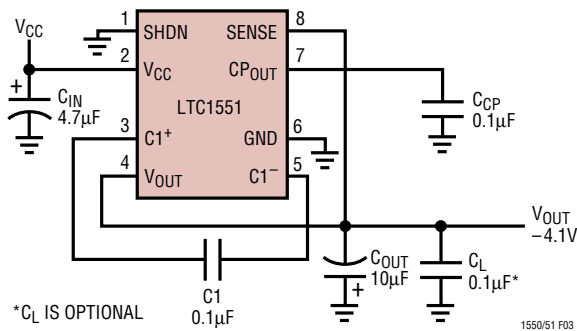
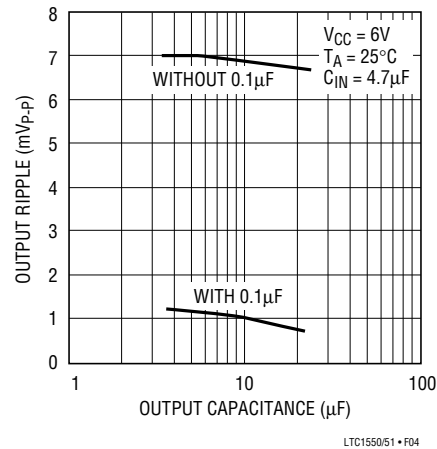
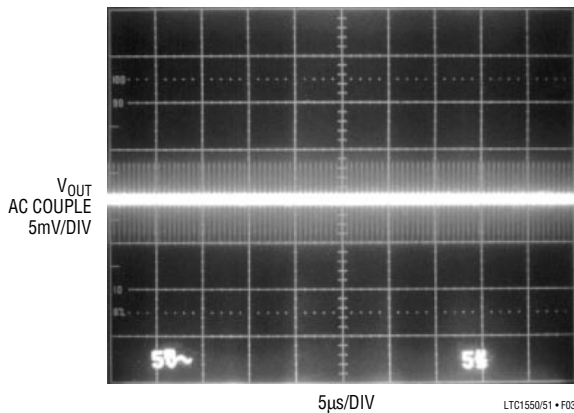

Figure 2. Output Ripple Test Circuit
Figure 3. Output Ripple vs Output Capacitance
Figure 4. Output Ripple with  $10\mu\text{F}$  Tantalum Capacitor
**Load Transient Response (See Figure 2, VCC = 5V)**
**Line Transient Response (See Figure 2, IL = 10mA)**
**Output Spectrum (See Figure 2, COUT = 10μF)**
(See Figure 2,  $C_{OUT} = 10\mu\text{F}$ )
(See Figure 2,  $C_{OUT} = 22\mu\text{F}$ )
Figure 3 shows the effect of using different output capacitor values on LTC1550/LTC1551 output ripple. These curves are taken using the circuit in Figure 2, with  $C_{IN} = 4.7\mu\text{F}$  and  $I_{LOAD} = 5\text{mA}$ . The upper curve shows the performance with a standard tantalum capacitor alone and the lower curve shows the tantalum capacitor in parallel with a  $0.1\mu\text{F}$  ceramic capacitor. As a general rule, larger
Figure 3 shows a marked decrease in peak-to-peak output ripple when a  $0.1\mu\text{F}$  ceramic capacitor added in parallel with the tantalum output capacitor. The additional ripple with the tantalum output capacitor alone is mostly very high order harmonics of the  $900\text{kHz}$  clock, which appear as sharp "spikes" at the output. The energy in these spikes is very small and they do not contribute to the RMS output voltage, but their peak-to-peak amplitude can be several
millivolts under some conditions. A garden variety  $0.1\mu\text{F}$  ceramic capacitor has significantly lower impedance at the spike frequency than even a large tantalum capacitor, and helps eliminate most of these left-over switching spikes that the tantalum capacitor leaves behind. Figure 4 and 5 show scope photos of the output of Figure 3 with and without the additional ceramic capacitor at the output.
switches, causing the output linear regulator to momentarily stop regulating.  $C_{\text{IN}}$  should be mounted as close to the LTC1550/LTC1551 as possible and its value should be significantly larger than  $C_1$ . Tantalum capacitors with low ESR generally provide adequate performance. Figure 6 shows the LTC1550/LTC1551 peak-to-peak output ripple vs  $C_{\text{IN}}$ , taken using the test circuit in Figure 2 with  $I_{\text{LOAD}}$  set at  $5\text{mA}$ .  $C_{\text{OUT}}$  is a  $10\mu\text{F}$  in parallel with a  $0.1\mu\text{F}$  ceramic capacitor.